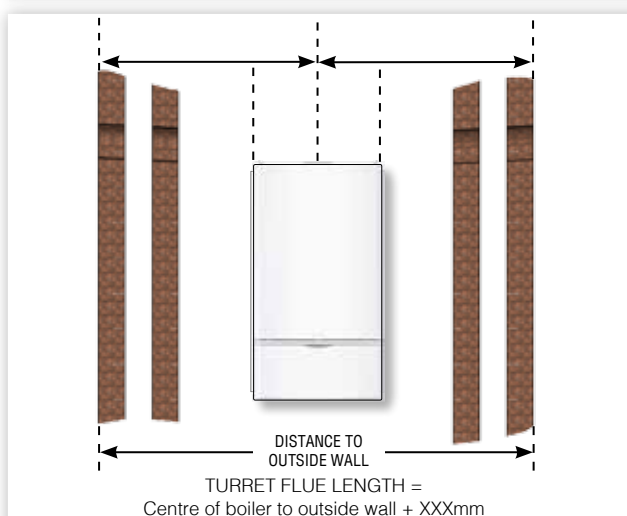

FIGURE 16. MEASURING WALL DISTANCES
- b. For a side flue measure the distance from the outside wall to the side of the boiler and add; Length shown in Figure 16. This dimension is known as dimension "X".